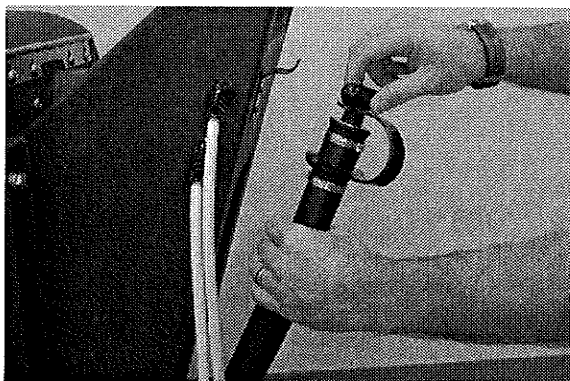

FIG. 4
1. Drain and flush recovery tank with clean water after each use (Figure 4).